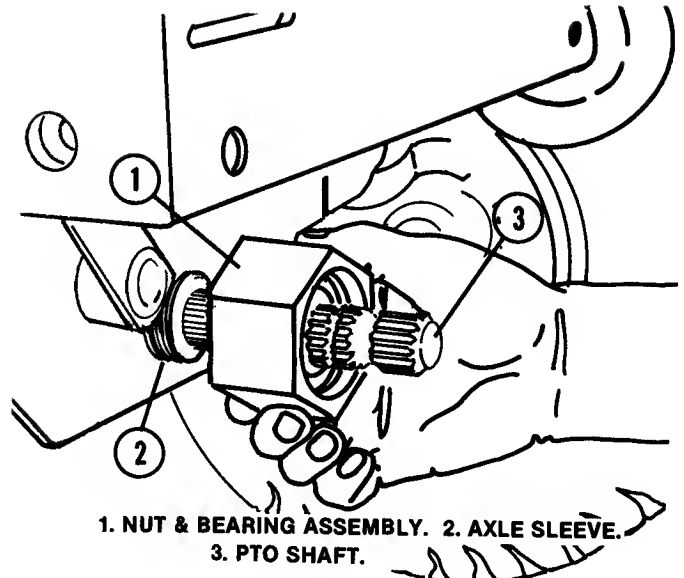

FIG. 2.22 — FRONT PTO BEARING PARTS
3. Unscrew large nut and bearing assembly off axle mounting sleeve and slide off. Fig. 2.22.